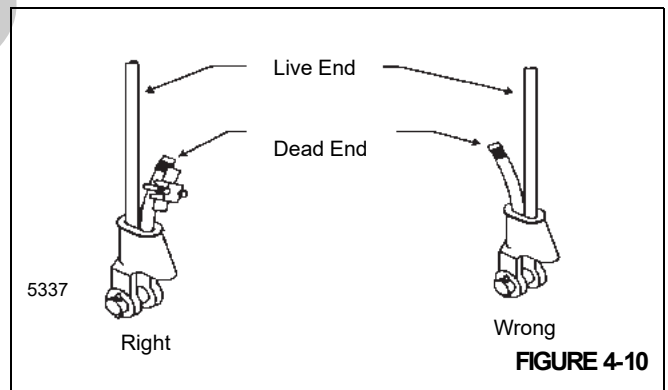

FIGURE 4-10
3. Make sure the live-loaded side (Figure 4-10) of the wire rope is directly in line with the ears of the socket and the direction of pull to which the wire rope will be subjected. If the wire rope is loaded into the socket incorrectly, under a load the wire rope will bend as it leaves the socket, and the edge of the socket will wear into the wire rope causing damage to the wire rope and eventual failure.
4. Insert the end of a wire rope into the socket, form a loop in the wire rope, and route the wire rope back through the socket allowing the “dead” end (Figure 4-10) to protrude from the socket. Ensure the dead end of the wire rope is of sufficient length to apply end treatment to the dead end after the wedge has been seated.